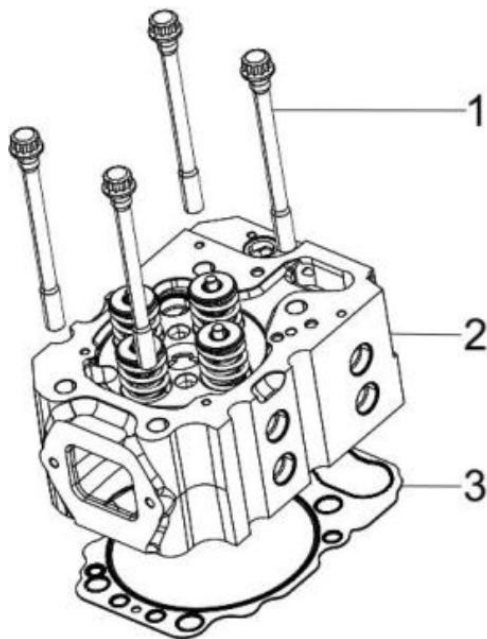

Figure 53. Cylinder Head Assembly
6. Lift the cylinder head away from the cylinder block (Figure 53, 2). Discard the cylinder head gasket (Figure 53, 3).